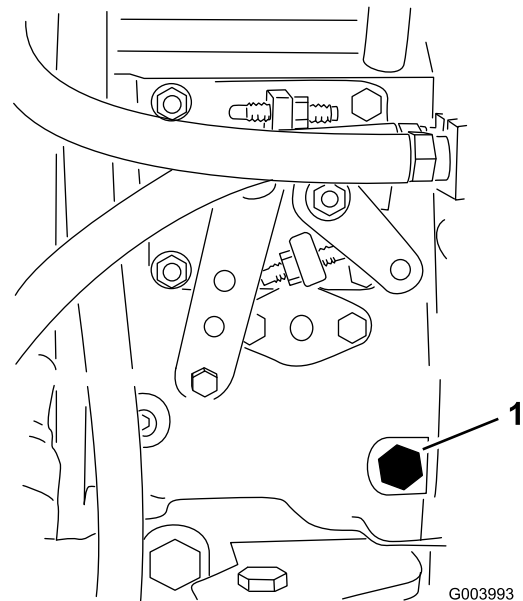

Figure 35
3. Open the air bleed screw on the fuel injection pump (Figure 35) with a 12 mm wrench.